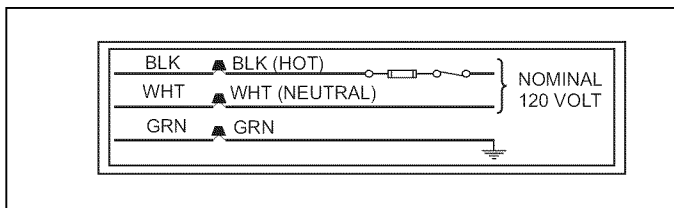

FIGURE 10: Line Wiring Connections
3. The furnace's control system requires correct polarity of the power supply and a proper ground connection. Refer to Figure 10.